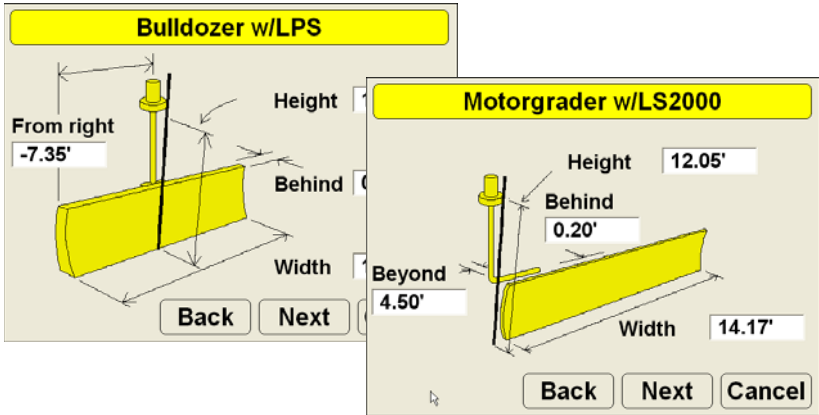

Figure 8-17. Enter Antenna Information
4. Select and enter sensor information, then press **Next** (Figure 8-17 on page 8-19). When entering measurements, use the same units of measure selected in the previous step.